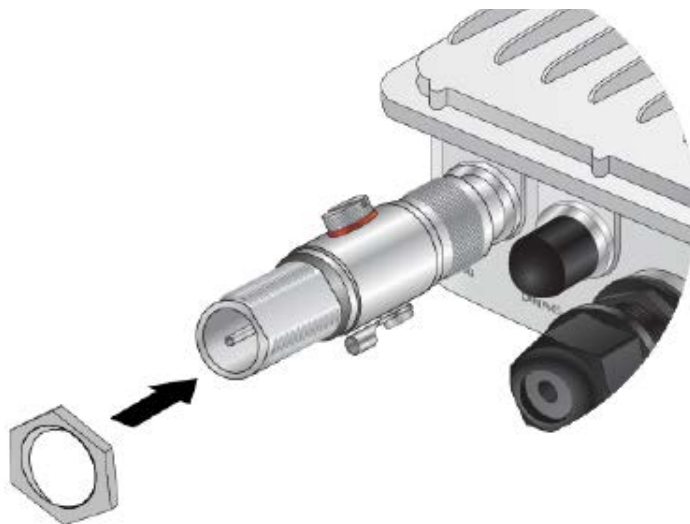

Figure 19. Screwing the Nut onto the Surge Protector
3. Screw the nut onto the surge protector. Refer to Figure 19.